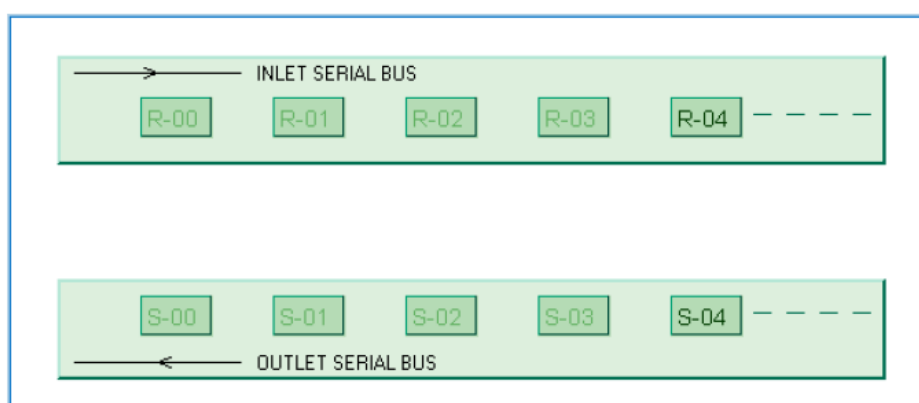

Figure 2.
1. Switching between 4 telephones, all of them connected to one bus. The data is only available briefly in each timeslot, as suggested by the flickering display *Figure 2*.